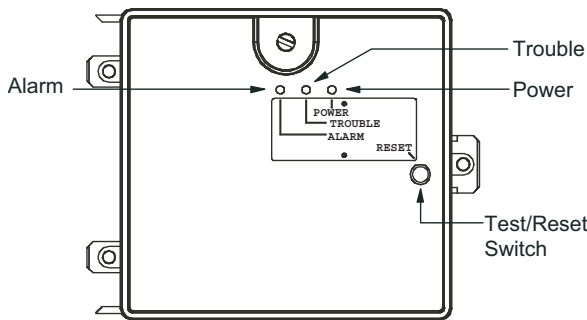

Fig. 65 — Controller Assembly
- The contacts on the controller's supervisory relay switch positions. (See Fig. 65.)